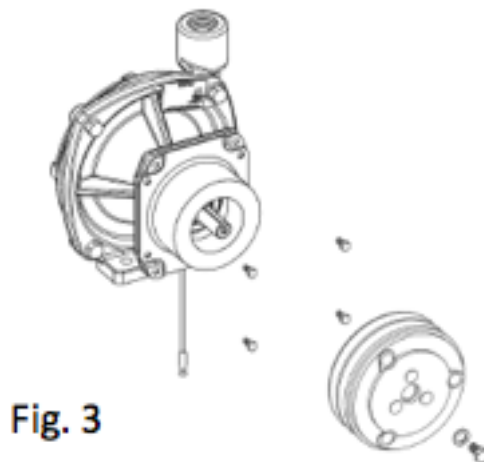

Fig. 3
- Test for alignment by hand rotating the clutch to insure there is no rubbing, if rubbing occurs loosen 4 bolts that hold back clutch magnet to adjust, retighten all bolts for final assembly, see Fig 3.